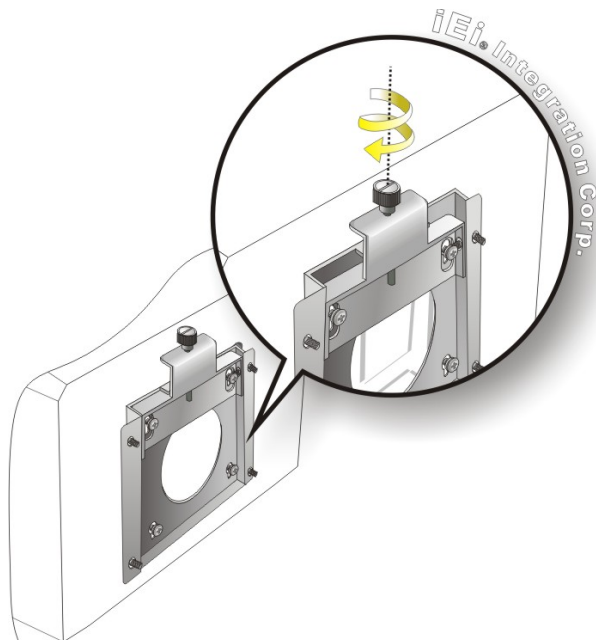

Figure 3-14: Secure the Panel PC
Step 9: Secure the panel PC by fastening the retention screw of the wall-mounting bracket (**Figure 3-14**).